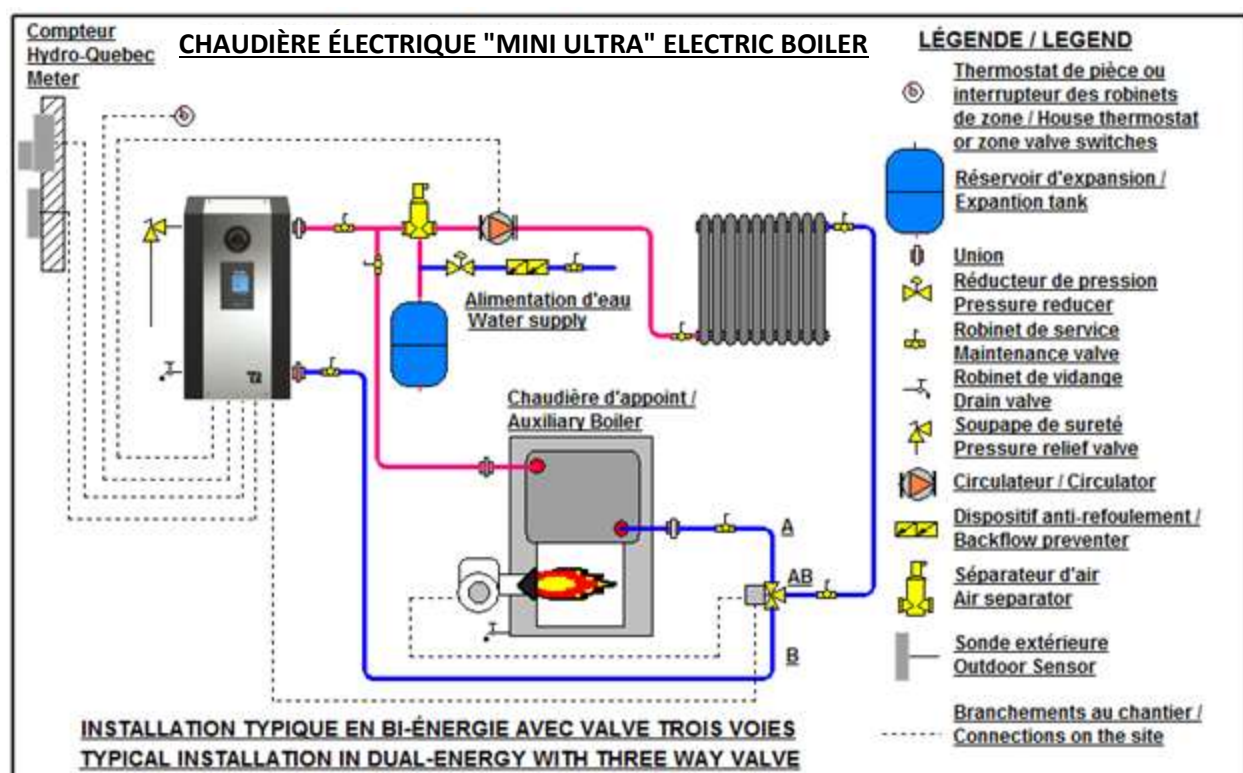

Figure 7 : Typical installation for dual-energy with three-way valve (USA models only)
- If the piping installation is made as shown on fig.7 without a three-way valve: